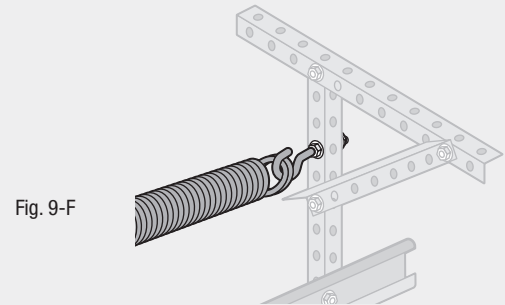

Fig. 9-F
- Using the cable attached to bottom bracket, thread cable up over the stationary sheave (Fig. 9-G).
- Continue to thread cable over and around sheave on the springs (Fig. 9-H).